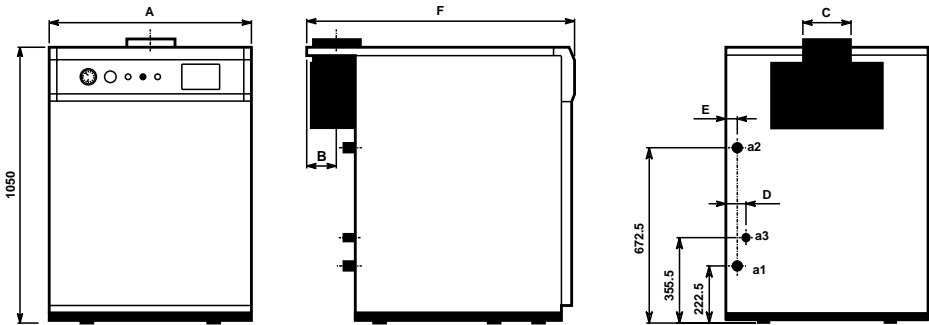

Fig. 1
2.01 Dimensions (see fig. 1 and table 2)